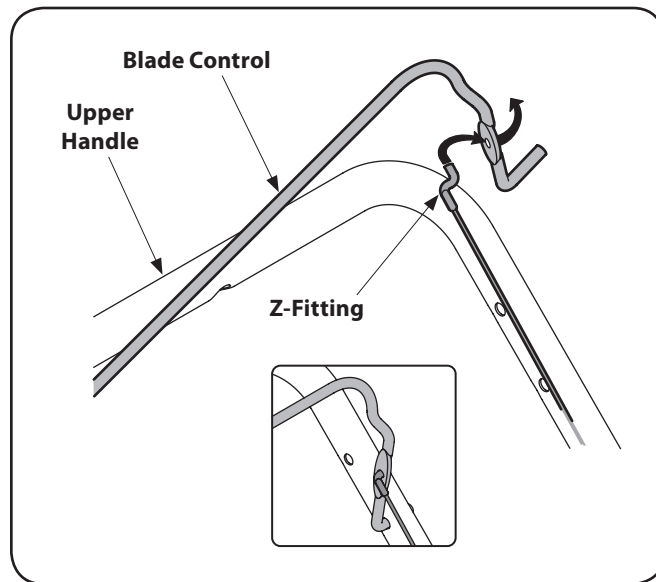

Figure 3-16
1. To make it easier to attach the Z fitting, temporarily remove the left side of the blade control as shown in Figure 3-16.
2. Pull up on the Z end of the brake cable and hook it into the control from the inside to outside. See Figure 3-16.